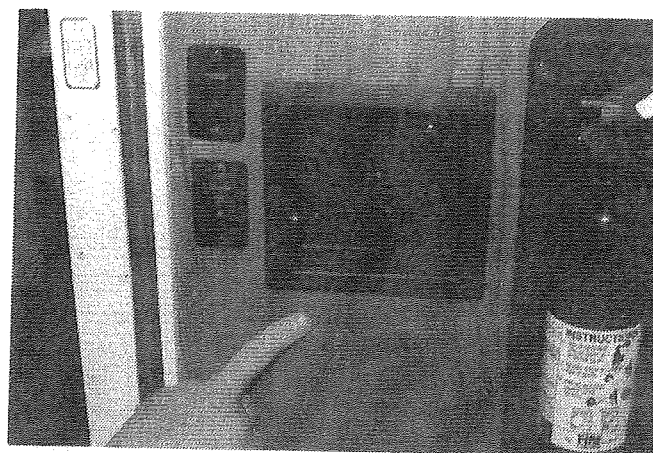
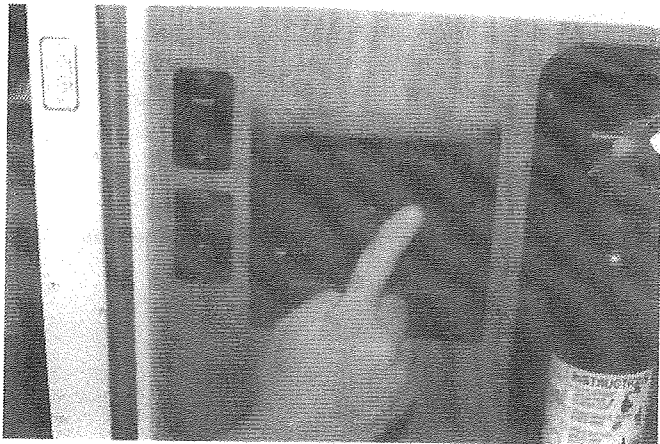

FIGURE 4
FIGURE 5
1. With the access door open, locate the power lift controls on the curbside cabinet. See Figure 4. Turn the release valve clockwise to the fully closed position. Ensure the gravity latch cable is pushed fully inward. See Figure 5.